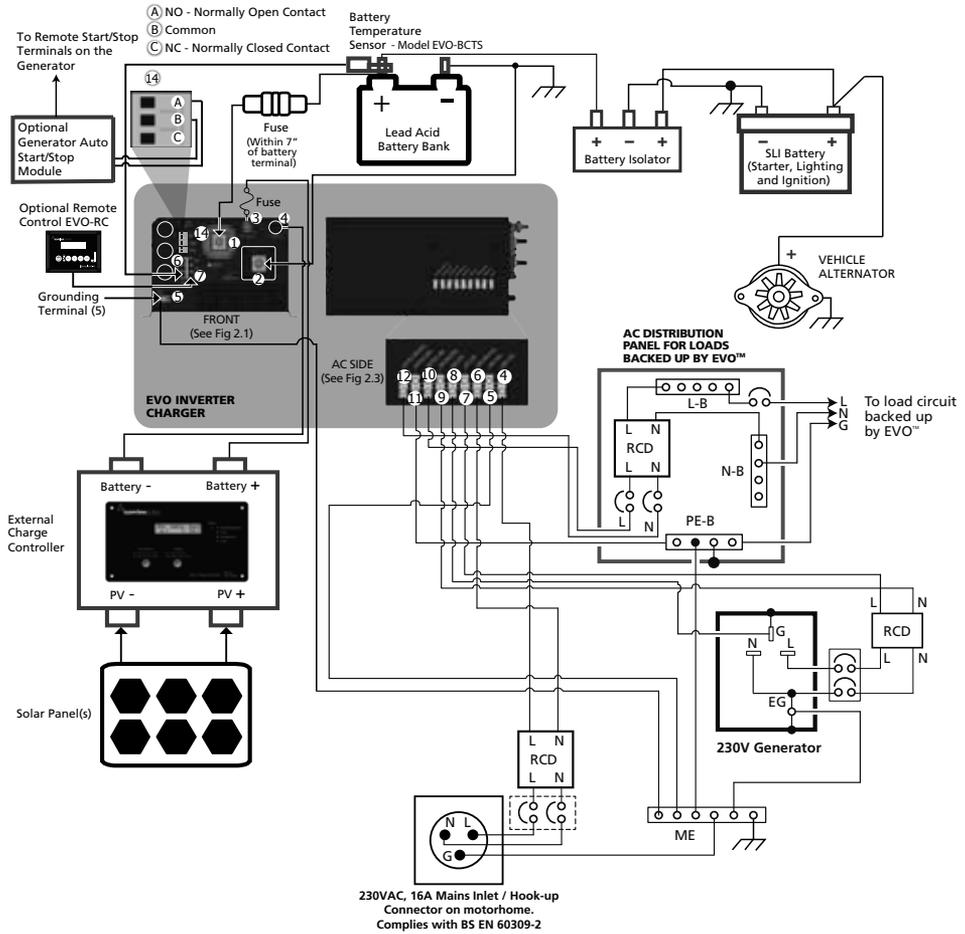

Fig 2 Typical Mobile Installation for Motorhome / Caravan / Vehicle
- Typical Mobile Installation: Fig 2